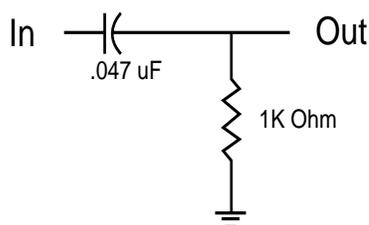

Figure 4. Differentiator Circuit
**Procedure:** Load each channel to 1 Ohm. Inject a 1 kHz differentiated (or 10% duty cycle) square wave. See figure 4. Increase output level until current limit occurs. Current limit should occur at 30  $\pm$ 2 Amps (30 Vpk). Observe clean (no oscillations) current clipping.